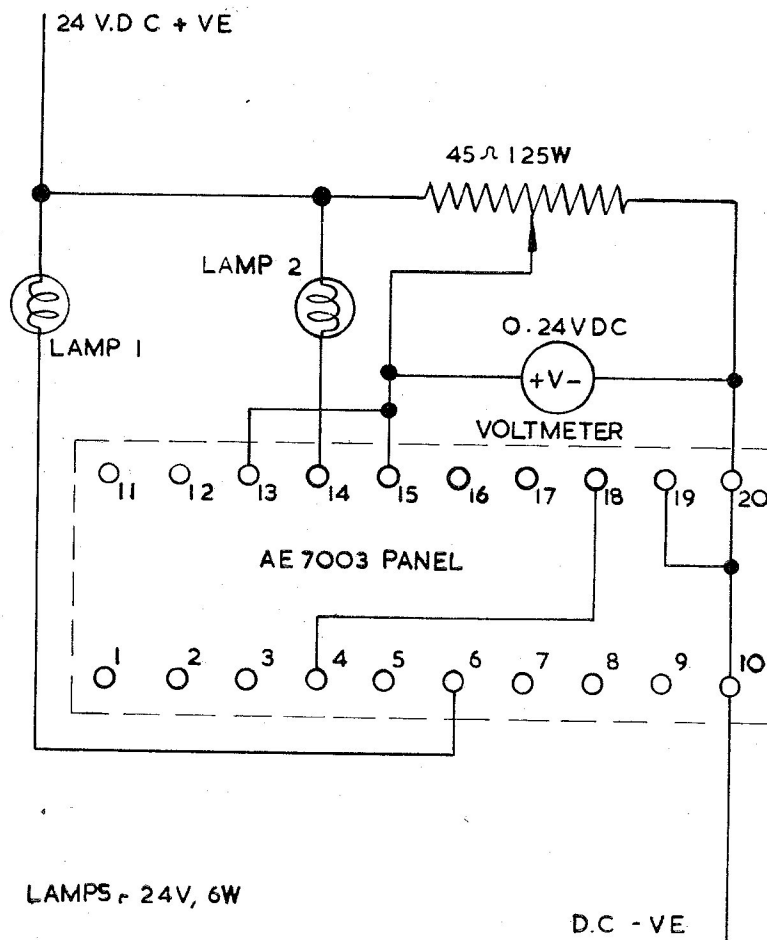

Fig. 4. Test circuit
10. Using a bridge megger connected to 9 and 10 for resistor R1 (fig. 4), and 7 and 8 for resistor R2, check the resistance of each, the value in both instances should be 1 ohm \pm 0.1 ohm.
12. Connect the unit into the test circuit (fig. 4), set the potentiometer for zero volts. Lamp 1 only should light.